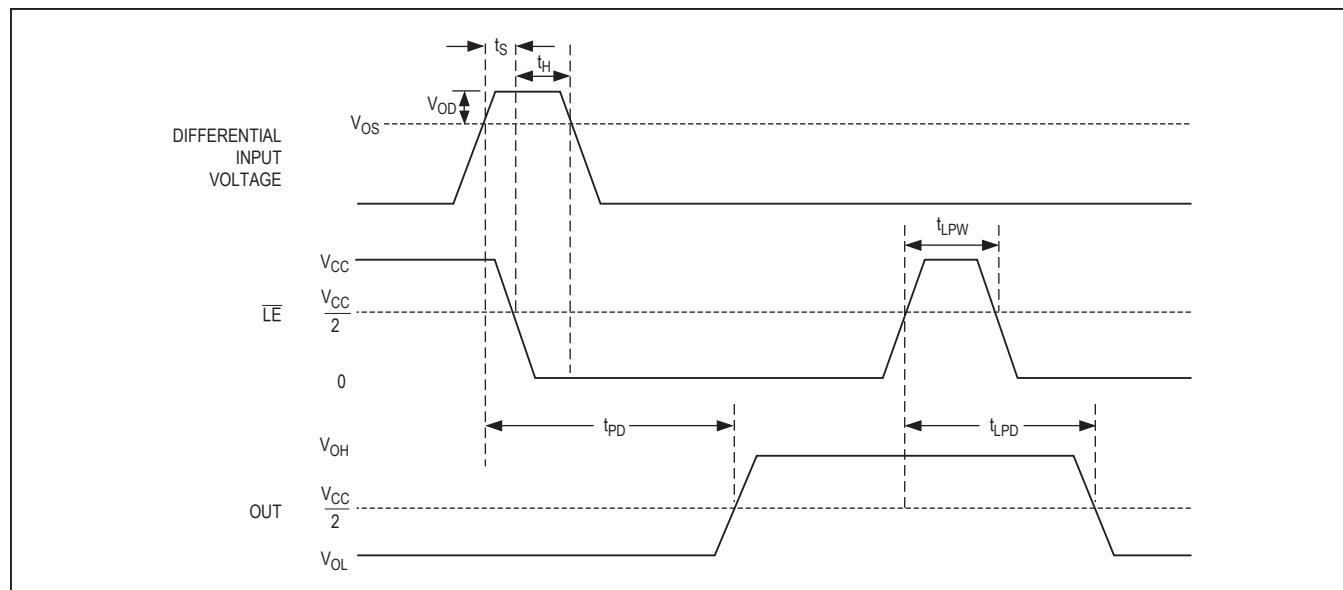

Figure 2. MAX9141 Timing Diagram with Latch Operator
**Note 12:** Applies to the MAX9141 only. Comparator is active with  $\overline{LE}$  driven high and is latched with  $\overline{LE}$  driven low ( $V_{OD} = 10mV$ ). See Figure 2.
The MAX9141 includes an internal latch that allows storage of comparison results. The  $\overline{LE}$  pin has a high input impedance. If  $\overline{LE}$  is high, the latch is transparent (i.e., the comparator operates as though the latch is not present). The comparator's output state is latched when  $\overline{LE}$  is pulled low (Figure 2).